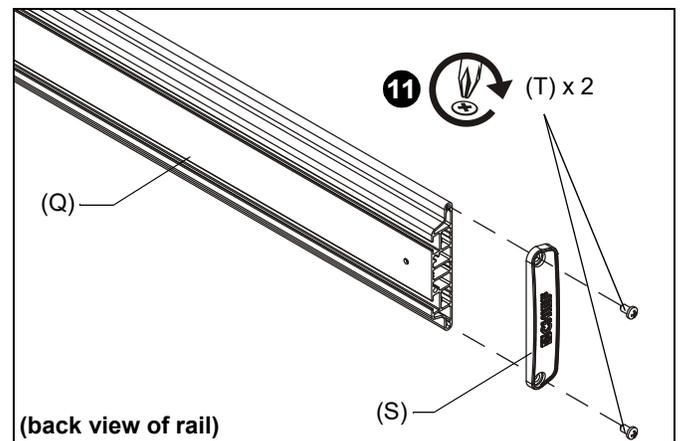

Figure 23
- Attach one remaining end cap (S) with two 1/4-20 x 1/2" Phillips head screws (T) to end of mounting rail (Q). (See Figure 23)